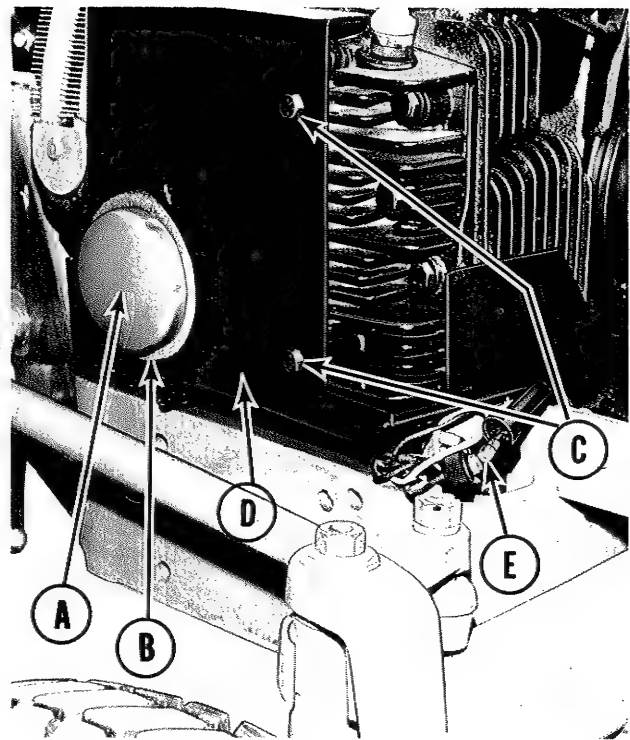

Figure 28. Right front cover of engine.
REPLACE ENGINE OIL FILTER: (See figure 28) Every 100 hours or every other time the engine oil is changed, the oil filter (A) should be replaced. Replace the oil filter after the oil has been drained during an oil change, but before adding the new oil. Proceed as follows:
3. Install the foam strip over the new filter (Figure 28, item B) to prevent loss of cooling air.
CLEAN ENGINE FINS: See figure 28. The engine cooling fins should be cleaned every 200 hours or more often if material accumulates in them. Proceed as follows: